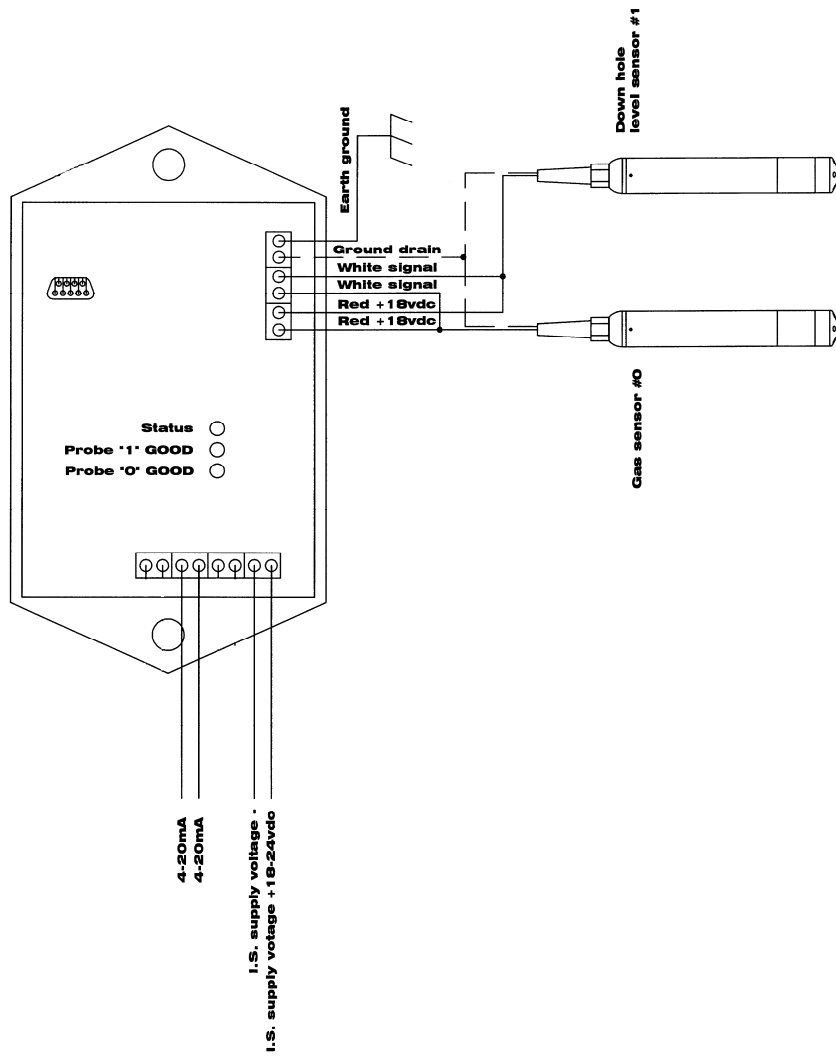

Figure 2
Refer to Figure 2 and the label on the Signal Manager for wiring connections. The controller accepts two (2) 4-20mA inputs from loop powered sensors. These sensors should include a shield to minimize interference from external sources. In order for the shields to be effective, a #14AWG ground wire needs to be run from the end sensor terminal block connection position to a good earth ground. Keep this wire as short as possible.